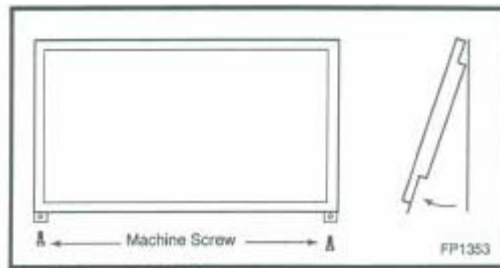

Fig. 17 Remove glass frame.
1. Remove two (2) screws at the bottom of the frame. (Ref Fig. 17)